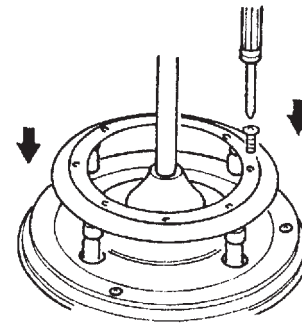

Fig. 3
3. Re-install the top plate of housing and tighten 4 screws (see Fig. 3).